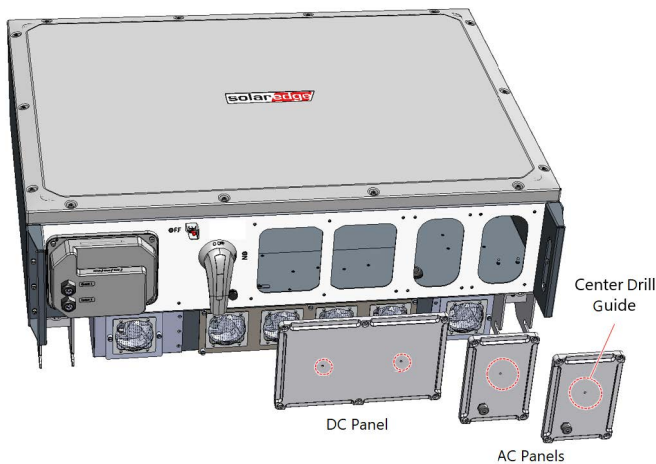

Figure 24: AC and DC panels with center drill guides at the bottom of the inverter
2. Locate the center drill guides for conduits on the DC and AC panels. Drill up to 3" entry hole(s) on the DC panel and one 2.5" on the AC panels (see *Figure 24*).